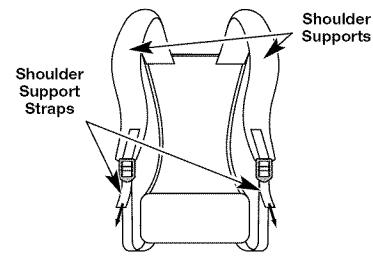

Fig. 12
- Pull the shoulder support straps down to tighten the shoulder supports (Fig. 12).